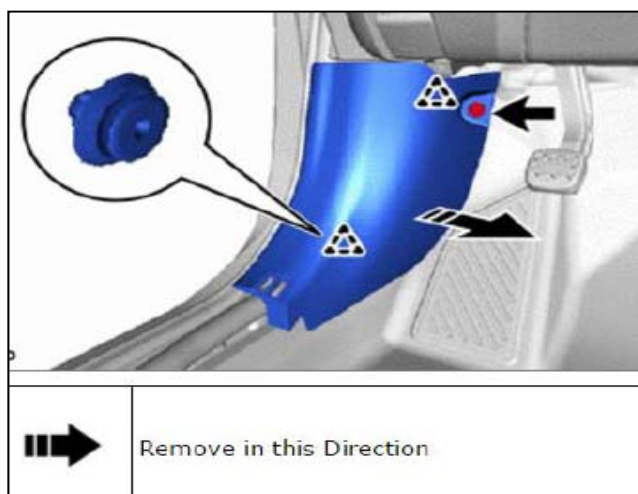

Figure 7
- b. Disengage the 2 clips to remove the cowl side trim board as shown in Figure 7.